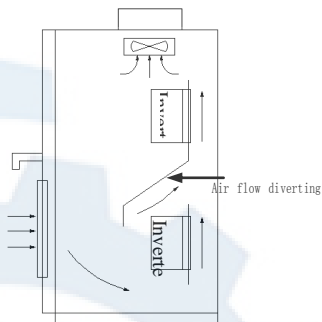

Fig.3-2 Mounting of multiple inverters
- (3) When several inverters are installed in one cabinet, they should be mounted in parallel with special incoming and out coming ventilation and special fans. When two inverters are mounted up and down, an air flow diverting plate should be fixed as shown in Fig.3-2 to ensure good heat dissipation.